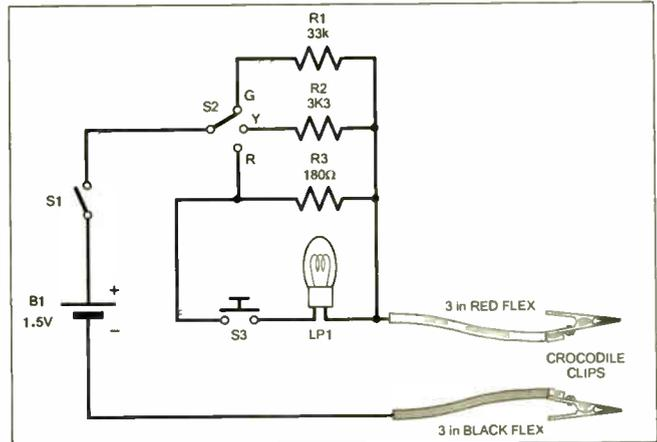

Fig.2. Circuit diagram for a simple Meter Identifier
**T**HE circuit diagram shown in Fig.2 is for a device I was asked to build for a friend who, when walking around radio rallies etc, trying to find a  $100\mu\text{A}$  meter, had trouble locating one. Firstly because some meters are not marked with the f.s.d. (full scale deflection), secondly because some meters have special scales like  $^{\circ}\text{C}$  or volts.